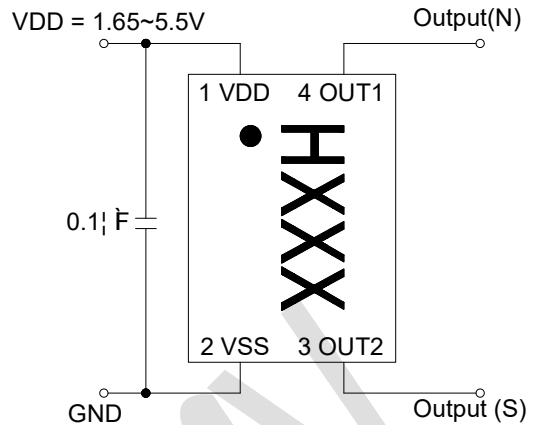

Figure 3: Connection diagram
2. Recommended land pattern of PCB is shown in Figure 3.
2. Recommended reflow profile for Pb free process is shown in Figure 3. The time duration of peak temperature (260°C) should be limited to 10 seconds.